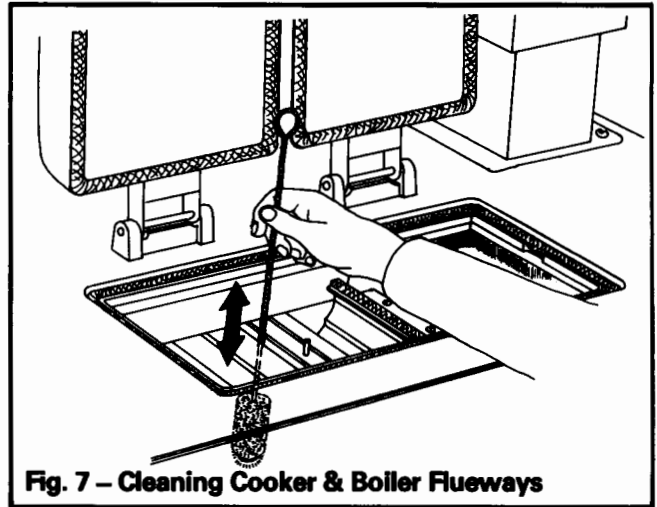

Fig. 7 – Cleaning Cooker & Boiler Flueways
- e. Thoroughly brush heat exchanger cross tubes and cooker flueways from the top and bottom of the heat exchanger until free of debris. See Fig. 7.